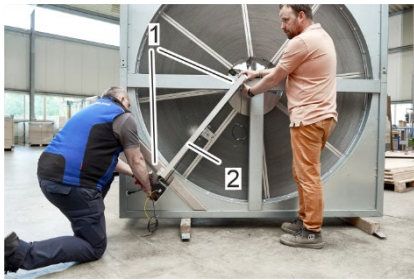

Fig. 25: Place the cleaning rail on the rotor frame
3. Hold the cleaning rail (Fig. 25/2) with two persons on the frame (Fig. 25/1) of the rotary heat exchanger. The end of the cleaning rail on the engine side must be at the outer end of the rotary heat exchanger. Make sure that the cleaning carriage can run over the entire rotor area.